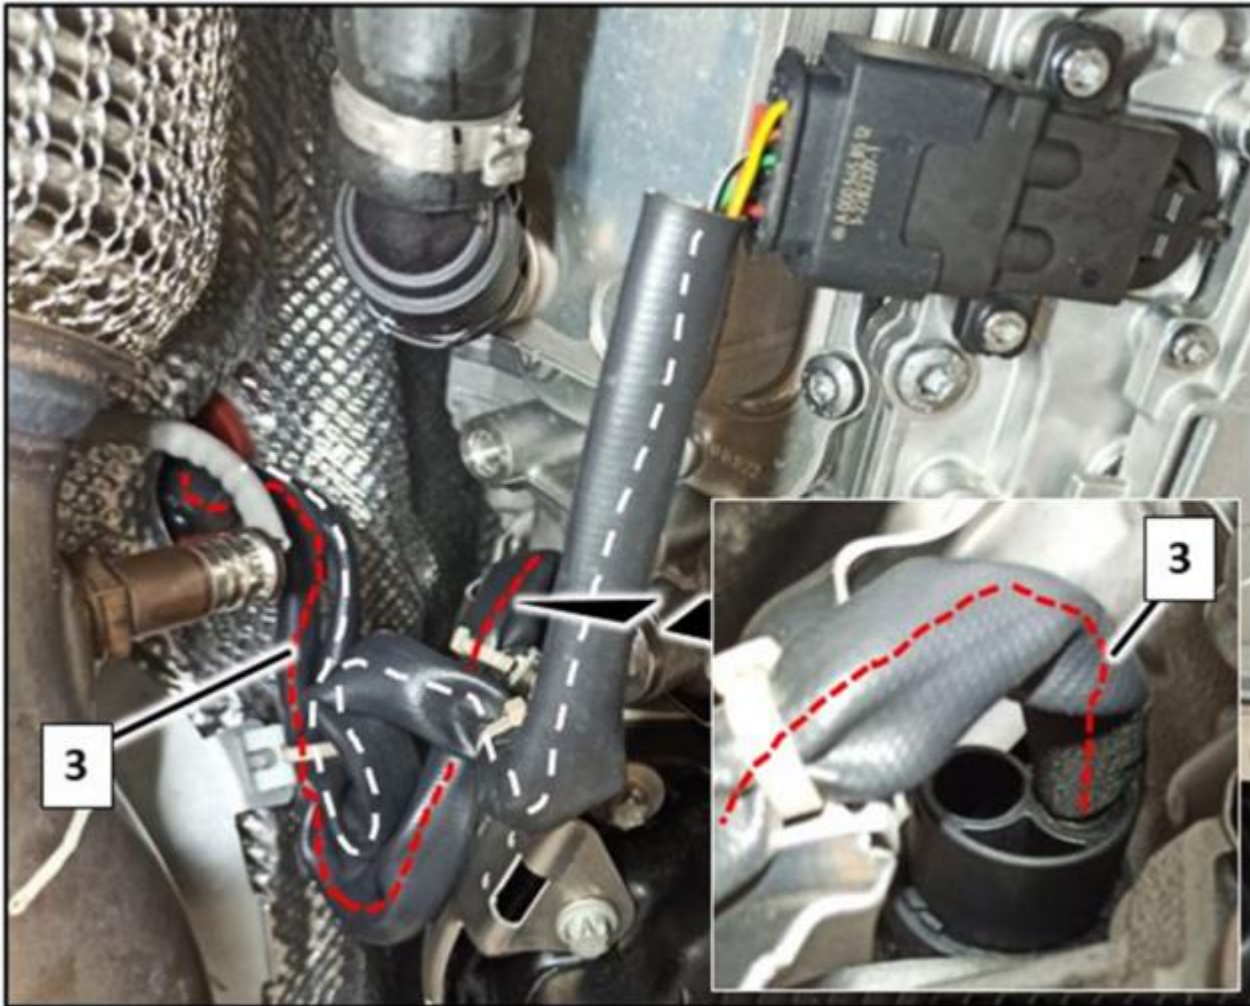

Figure 3
- c. If the electrical **power supply line (3, Figure 3)**